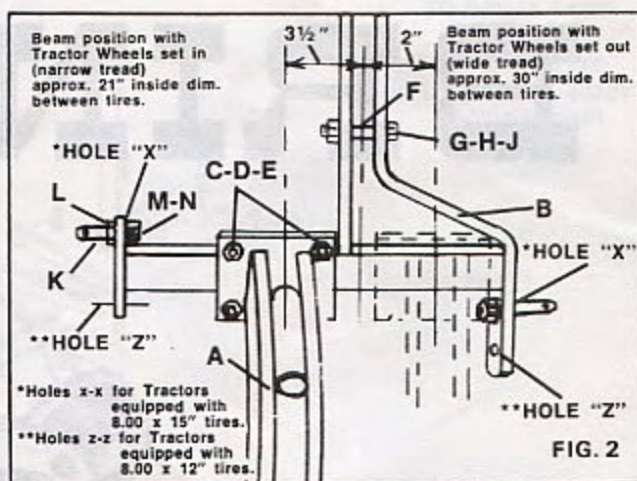

FIG. 2
**FIG. 2.** Assemble beam assembly (A) to mast (B), using (2) "U" bolts (C) (saddling square tube on mast), (2)  $\frac{3}{8}$ " lock washers (D), and (2)  $\frac{3}{8}$ " hex nuts (E). IF REAR TRACTOR WHEELS ARE SET IN NARROW TREAD POSITION, ASSEMBLE IN POSITION SHOWN. If wheels are set in wide tread position, assemble as sketched in. (See width of cut instructions in operation section of manual). Insert mast spacer (F) between mast upper arms (in bottom hole), secure with  $\frac{5}{8}$ " x 2 $\frac{1}{2}$ " hex bolt (G),  $\frac{3}{8}$ " lock washer (H), and  $\frac{3}{8}$ " hex nut (J).